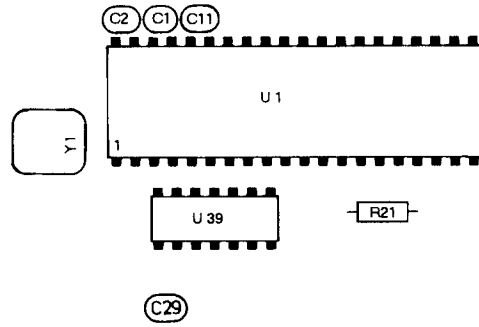

Figure B-13. 08116-66513: U39 and R21
4. Figure B-13 shows the location of U39 and R21 on microprocessor board 66513, modify Figure 10.7-9 accordingly.